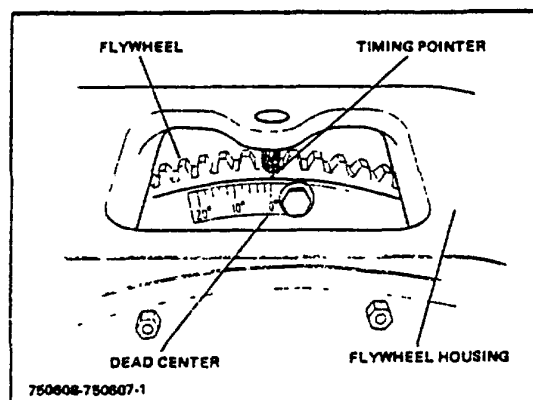

Figure 5-5. Flywheel Timing Marks
5. Place thumb over spark plug opening and rotate engine crankshaft by hand until outward pressure against thumb is felt. Continue turning crankshaft until D.C. mark (Figure 5-5) is aligned with timing pointer at center of timing window.